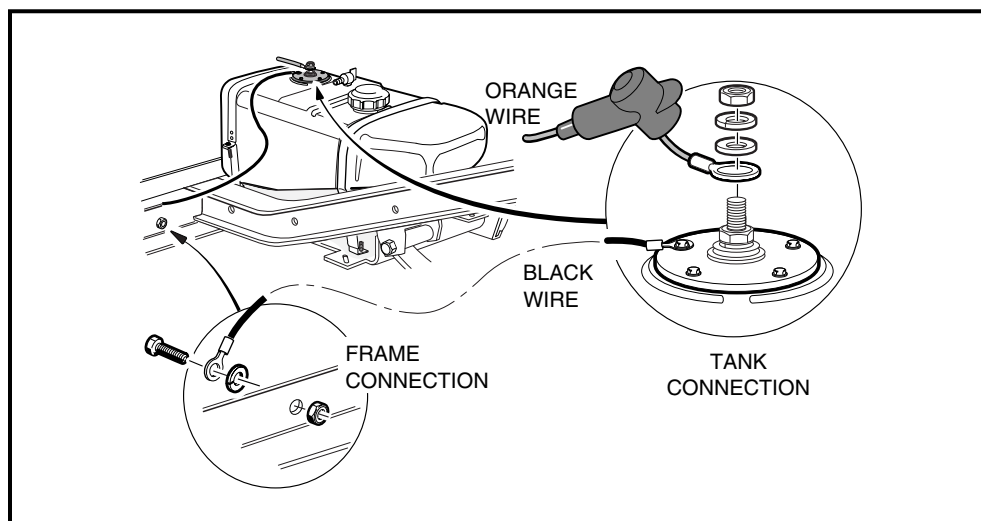

Figure 14-17 Fuel Level Sending Unit
9. Disconnect the black wire and orange wire from the fuel level sending unit on the tank (**Figure 14-17, Page 14-26**). Do not remove the lower nut on the center stud of the sending unit. **See following WARNING.**
5. Connect the black wire from the fuel gauge to one of the fuel level sending unit screws. Connect the orange wire to the center stud and install the flat washer, lock washer and nut and tighten to 18 in-lb (2.0 N-m) **(Figure 14-17, Page 14-26)**.